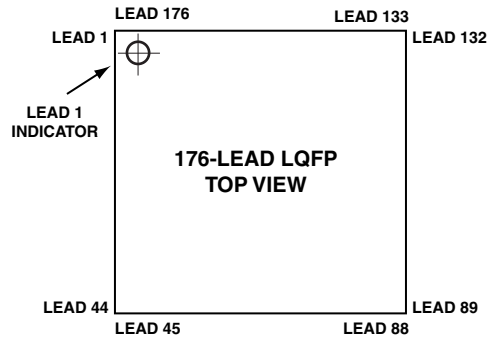
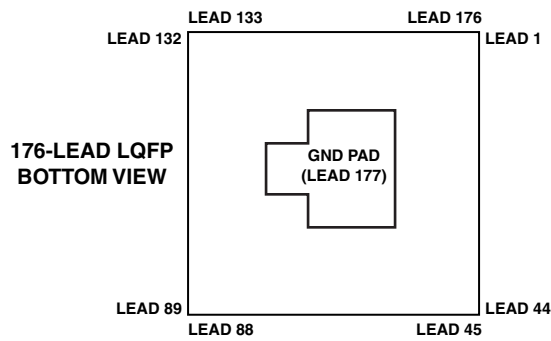

Figure 66. 176-Lead LQFP Lead Configuration (Top View)
Figure 67. 176-Lead LQFP Lead Configuration (Bottom View)
* Pin no. 177 is the GND supply (see Figure 67) for the processor; this pad **must** connect to GND.
Figure 66 shows the top view of the 176-lead LQFP lead configuration and Figure 67 shows the bottom view of the 176-lead LQFP lead configuration.